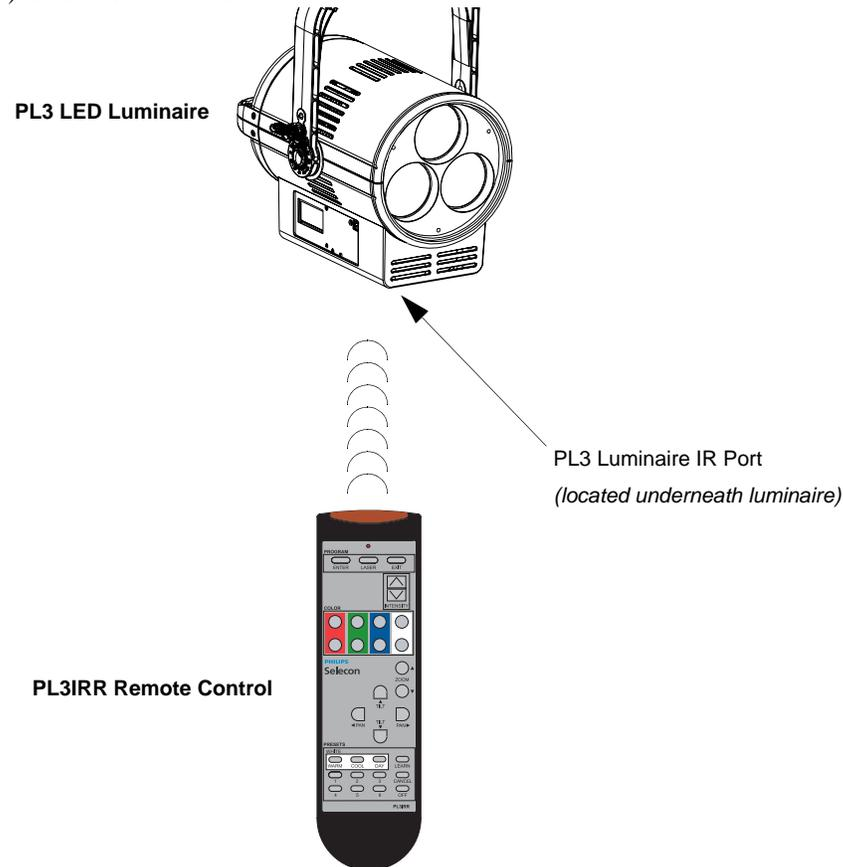

Figure 4: PL3 LED Luminaire Programming / Control
Step 1. Aim PL3IRR programming remote (as shown in **Figure 4**) and press "Enter" button. Luminaire will flash an LED (at bottom of unit) to provide a target for the laser to aim at. Luminaire will look for laser beam (from PL3IRR) to enter selected mode.